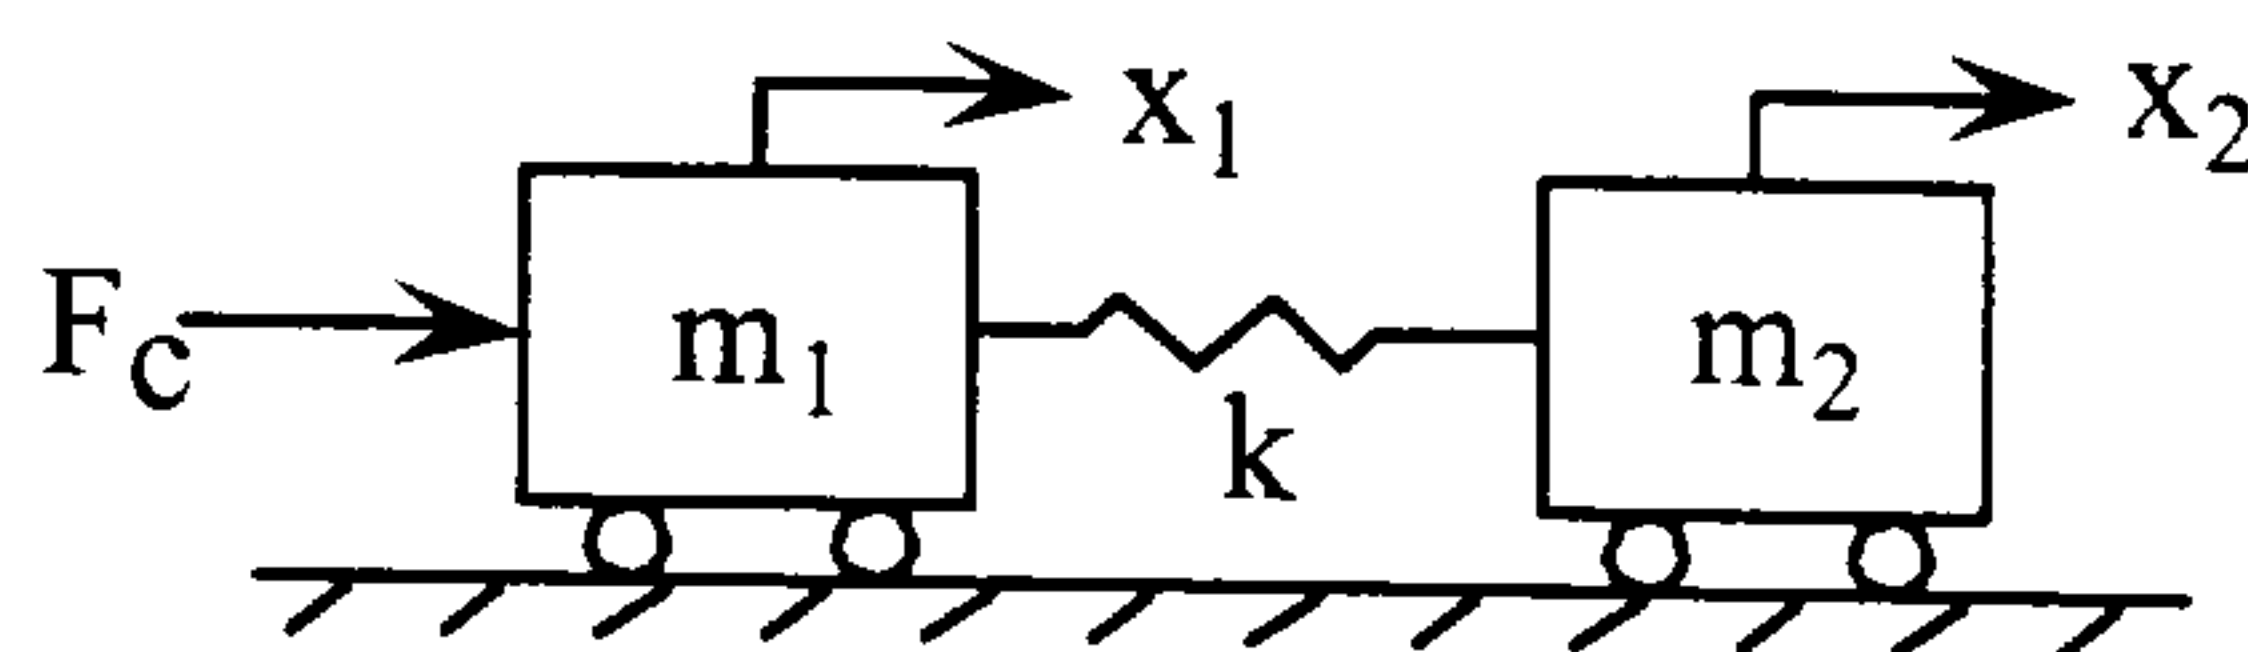

Fig. 2: Mass-Spring-Mass System.
In an effort to reduce the payload oscillation, a crane manufacturer is developing a feedback control system that uses a camera to measure the payload position. During initial testing they are simply concentrating on motion in the horizontal direction (the x direction) and neglecting hoisting of the payload. In this case, the crane can be reasonably modeled with the simple two-mass and spring system shown in Fig. 2. The company initially tries a PD control law, so that:
- 1) Derive the transfer function for the trolley position as function of the desired position, x_1/x_d , for the system shown in Fig. 2 using the forcing function given above.